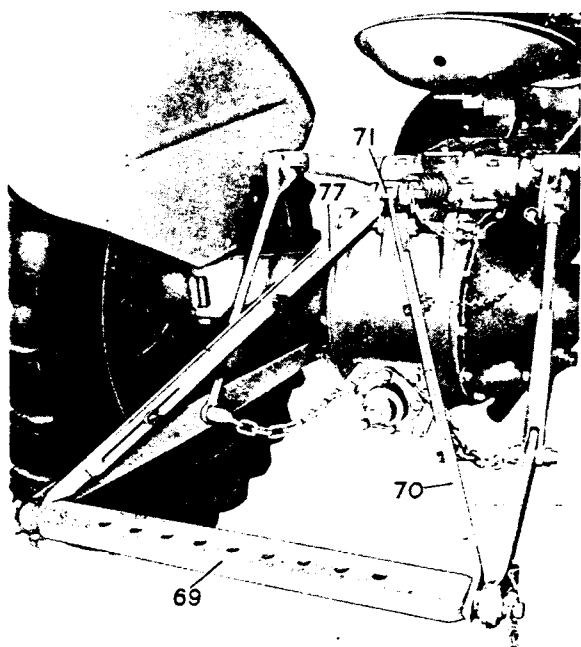

FIG. 26
## DRAWBAR (FIG. 26)
Figure 26 shows the adjustable drawbar (69) mounted to the tractor in the correct manner, with the stay assemblies (70)